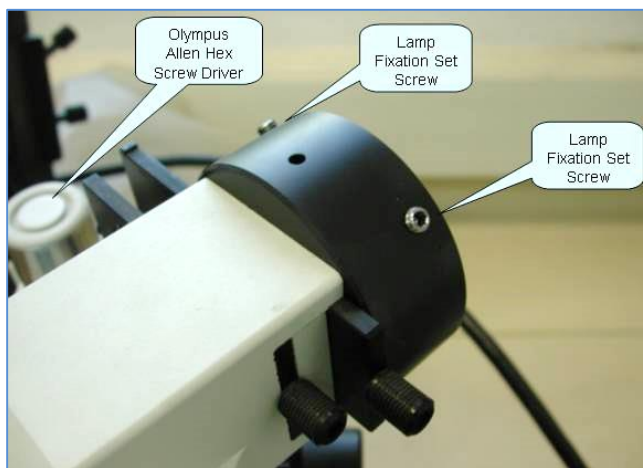

Fig. 1: Olympus BX-61 fluorescence microscope lamp connection element
2. Loosen the microscope lamp set screws (see Fig. 1). Use tools as recommended by the microscope manufacturer.